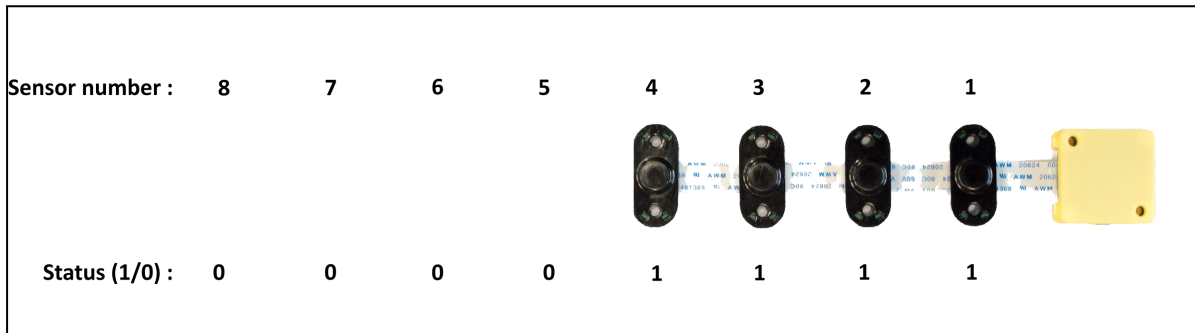

Figure 22. Calculating the Binary Byte value (4 sensors used)
The binary byte consists of 8 values that represent operating (1) and non-operating (0) sensors. In Figure 22, sensors 8, 7, 5, 2, 1 are operating and 6, 4, 3 are non-operating, which means that the binary byte value (Status) is **11010011**.
Note: In cases when only the operating sensors will be connected to the TeraRanger Multiflex Hub, the non-operating sensor binary status is not required (Figure 22).